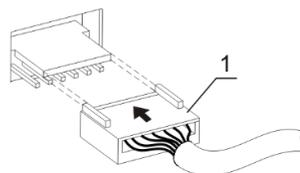

Fig. 1 Thermoblock connection
- Choose the thermoblock; connect the plug to the contact terminal according to the scheme on Fig. 1/1 on the underside of the thermoblock. Make sure that the connector is mounted tightly.
- Remove the four knurled screws, lift the block without damaging the cable and disconnect the plug (fig.1/1).